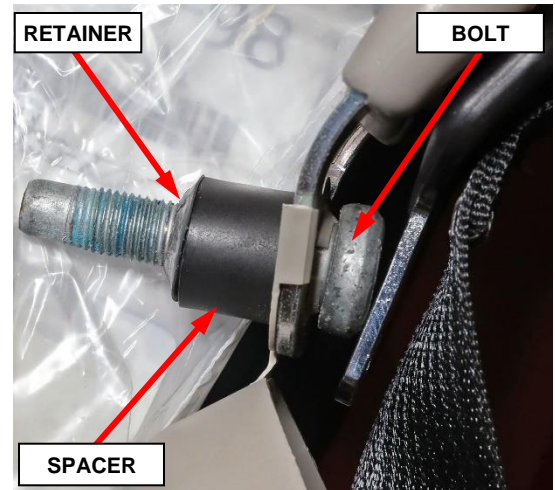

Figure 39 – Turning Loop Bolt
- 56. Remove and **DISCARD** the bolt retainer and the bolt from the seat belt turning loop, save the spacer for reuse (Figure 39).